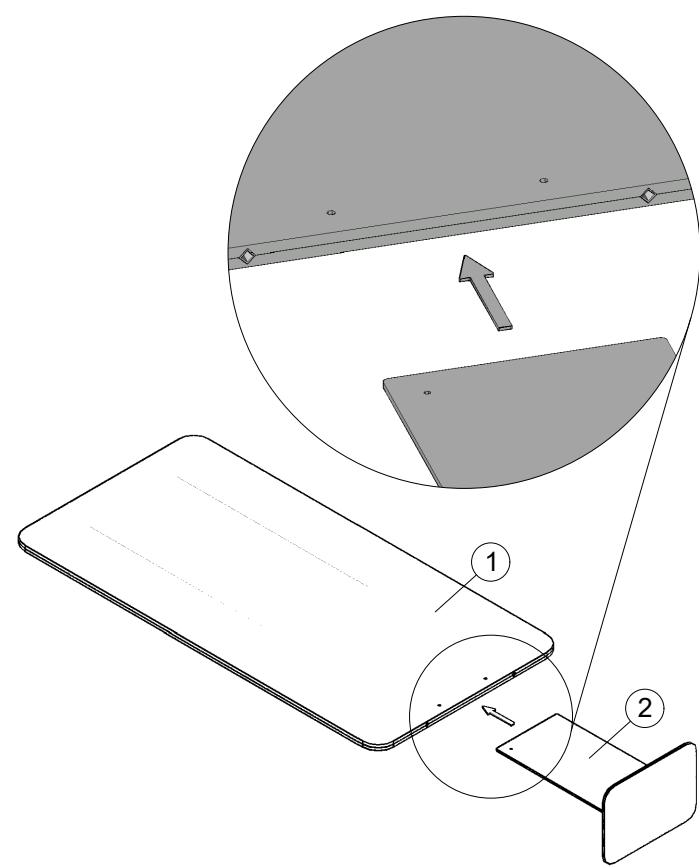

Figure 1
- 1. Place the PET Screen flat on a surface. Next, insert the PET Screen Base into the slit at the bottom of the PET Screen, as shown in Figure 1.